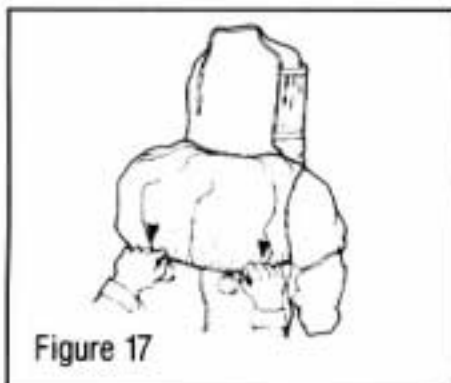

Figure 17
16. With your co-worker's aid, pull outer bib of parka down over outside of containment suit. Make sure that the respirator parka covers the exhaust valves on the upper back of containment suit (see Figure 17). Elastic band at bottom of respirator parka should rest between your waist and lower rib cage.